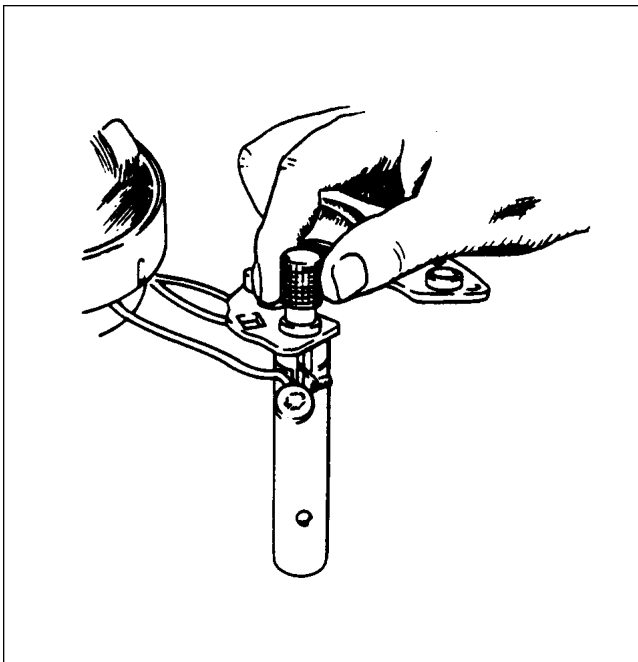

Figure 11-3. Removal of Rectifier
d. Remove nuts, lock washers, flat washers, and insulators from output and auxiliary terminal studs. (Note carefully the correct assembly of insulator washers and bushings.) Using special tools shown in Figure 11-3, support end head and press out the three negative rectifiers. End head can now be separated from stator assembly.